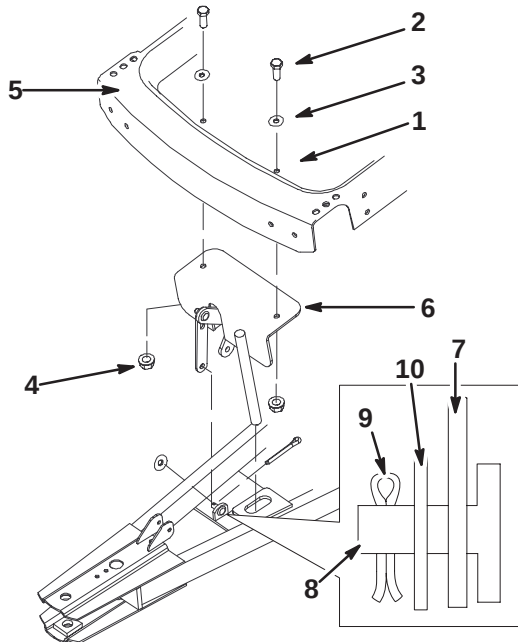

Figure 14
5. Remove the foot plate to access the existing holes in the traction unit frame (Fig. 14).
6. Install the lift mount assembly using 2 bolts (3/8 x 1 inch), 2 washers (3/8 inch) and 2 flange nuts (3/8 inch) as shown in figure 14.
7. Place the link lift over the frame assembly post and use a washer (3/8 inch) and cotter pin (3/4 inch) to hold it in place (Fig. 14).